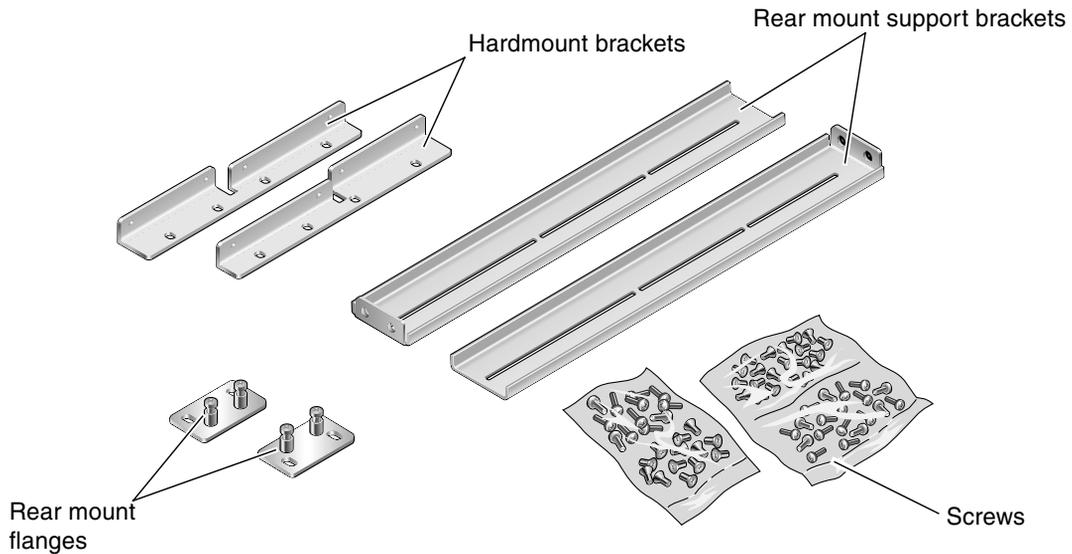

FIGURE 3-1 Contents of the Hardmount 19-Inch 4-Post Kit
1. Get the front hardmount brackets from the rack kit (FIGURE 3-1).
4. Get the two rear mount support brackets from the rack kit (FIGURE 3-1).
8. Get the two rear mount flanges from the rack kit (FIGURE 3-1).
You will also need the two hardmount brackets and two rear mount support brackets from the standard rackmount kit that came with the Netra 440 server (FIGURE 3-1).